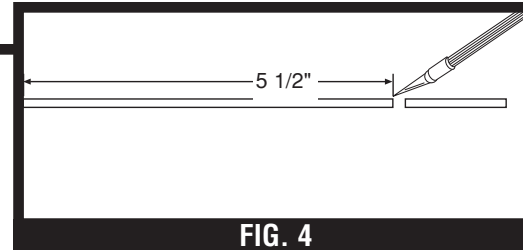

FIG. 4
6. Cut 7" styrene plastic stick to 5 1/2" length to form Ridge Support (FIG. 4).